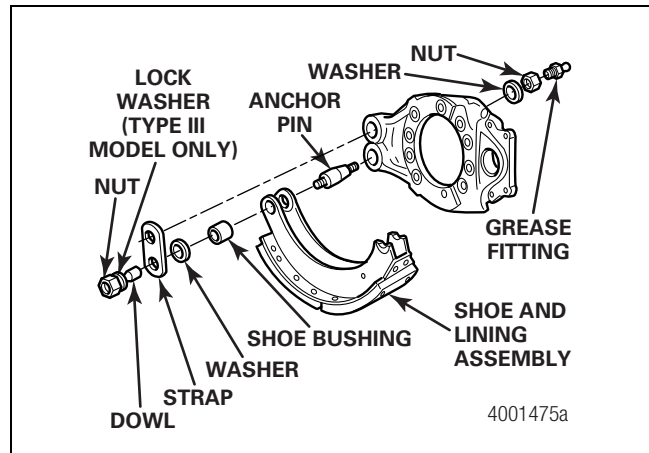

Figure 5.30
- A. For a tapered anchor pin, place the anchor pin through the shoes and into the shoe side of the spider. The tapered side of the pin must be toward the spider. Figure 5.30.